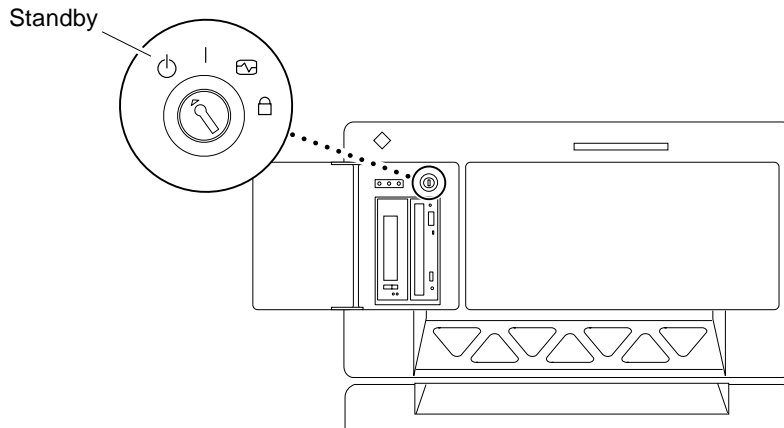

FIGURE 1-1 Keyswitch in Standby Position
- FIGURE 1-1 Keyswitch in Standby Position 2